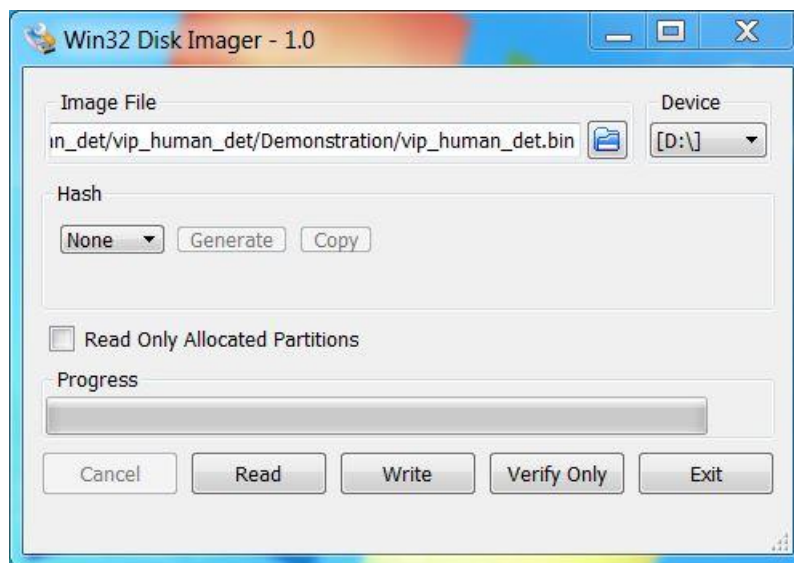

Figure 4.10. Win32 Disk Imager
4. In Win32 Disk Imager, select the image file `~/Demonstration/vip_human_det.bin` as shown in Figure 4.10.